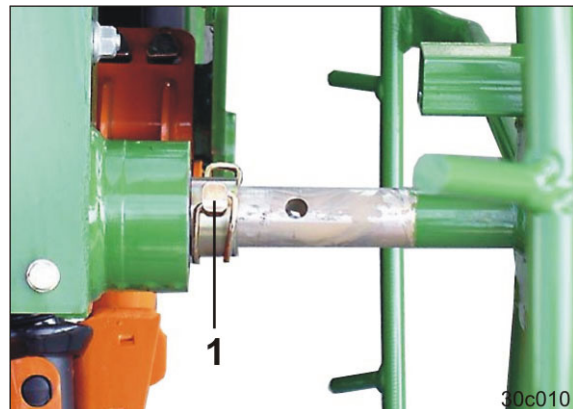

Fig. 146
2. Insert the star wheel in the drive and secure it with a linch pin (Fig. 146/1)